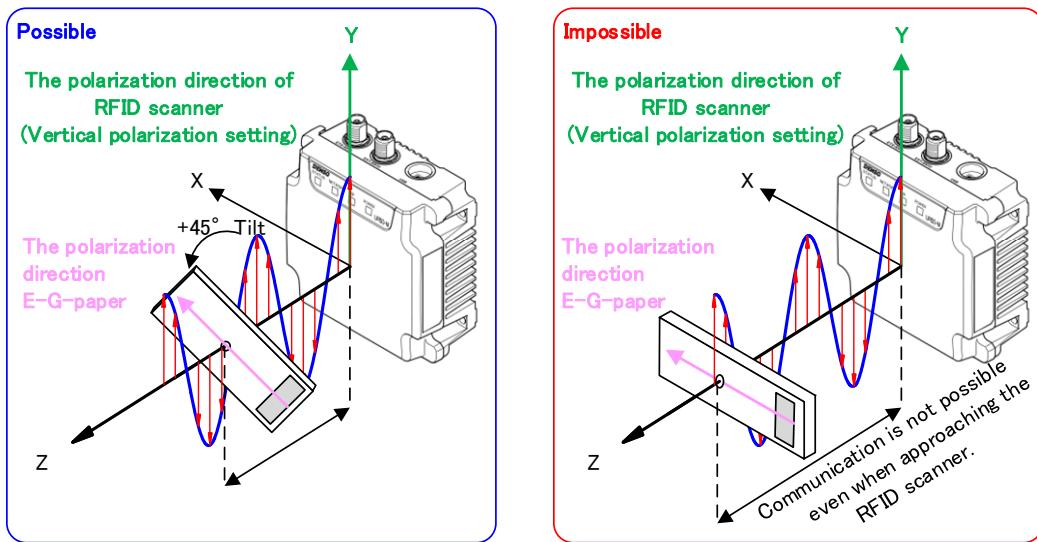

Figure 7.2 E-G-Paper is tilted
- When the E-G-Paper is tilted from the Y-axis to the X-axis, the communication distance will be reduced and be a low communication. When the tag is tilted by 45° , the communication will be a quarter of the normal distance. When the tag is tilted by 90° , it will not be able to communicate even it is close to the RFID scanner. Referring Figure 7.2.